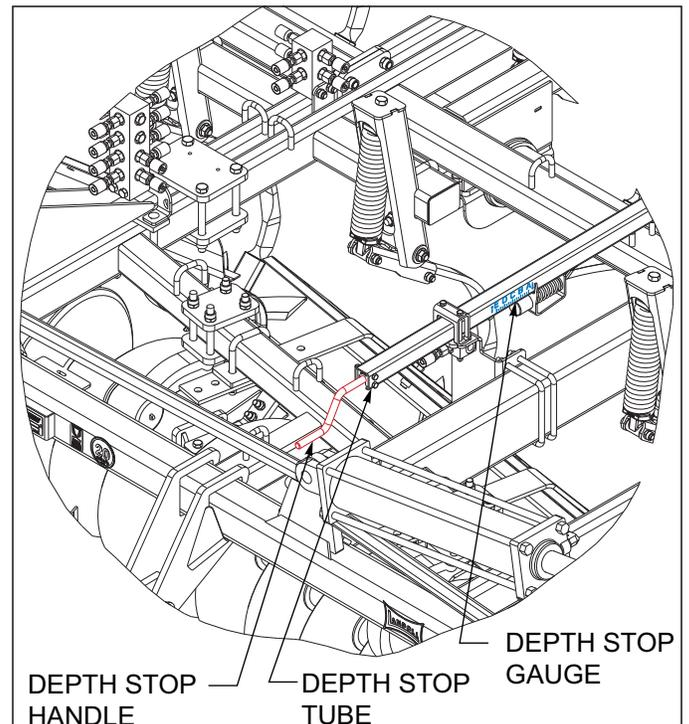

Figure 4-6: Depth Stop Adjustment
1. The operating depth of the Tilloll is controlled by a single-point depth stop. The stop is located at the center front of the machine *See Figure 4-6*.